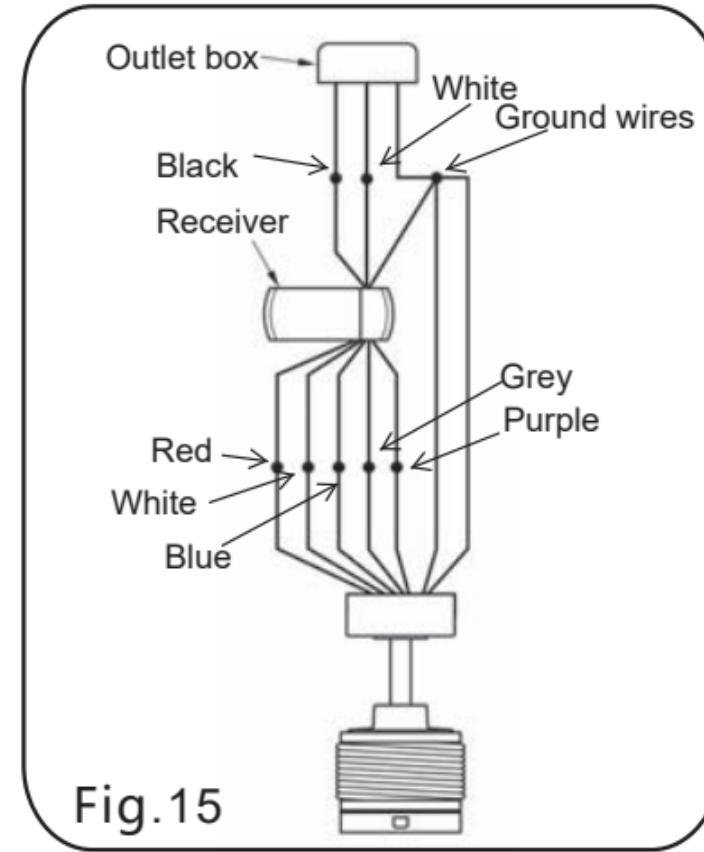

Fig.15
Step 2: Motor to Receiver electrical connections: connect the WHITE wire from the fan to the WHITE wire from receiver. Connect the RED wire from the fan to the RED wire from the Receiver. Connect the BLUE wire from the fan to the BLUE wire from the receiver. Connect the PURPLE wire from the fan to the PURPLE wire from the receiver. Connect the GREY wire from the fan to the GREY wire from the receiver.(Fig.15)
Step 3: If your outlet box has a GROUND wire (Green or Bare Copper) connect this wire to the Hanger ball, Hanger bracket and receiver Ground wires. If your outlet box does not have a Ground Wire ,then connect the Hanger ball, Hanger bracket and receiver Ground wire together.Secure wire connection with the plastic wire nut provided.(Fig.15)
Step 4: Receiver to House Supply Wires Electrical connections: Connect the WHITE wire from the outlet box to the WHITE wire marked "AC in N" from the receiver. Connect the BLACK wire from the outlet box to the BLACK wire marked "AC in L" from the receiver. Secure all wire connections with the plastic wire nuts provided. After all splices are made, check to make sure there are no loose strands. As an additional precaution we suggest to secure the plastic wire connectors to the wires with electrical tape.(Fig.15)